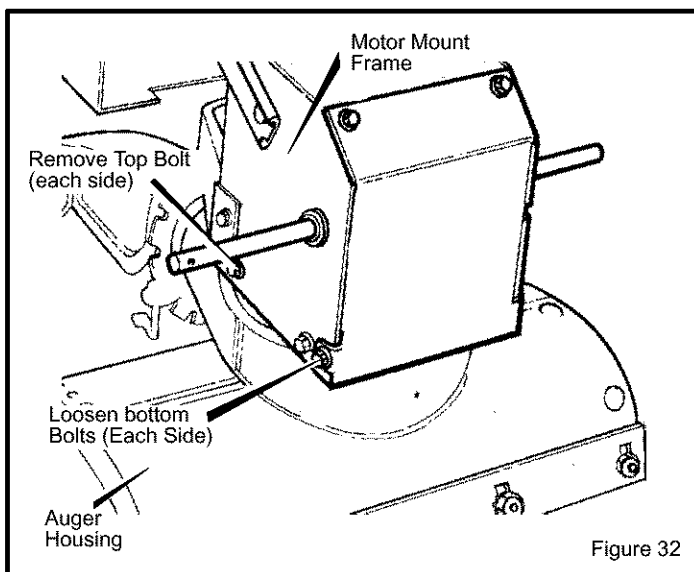

Figure 32
4. Remove top two bolts securing auger housing to motor mount frame. Loosen bottom two bolts. See Figure 32.
14. Replace top two bolts. Retighten bottom two bolts. See Figure 32.
17. Replace top two bolts. Retighten bottom two bolts. See Figure 32.